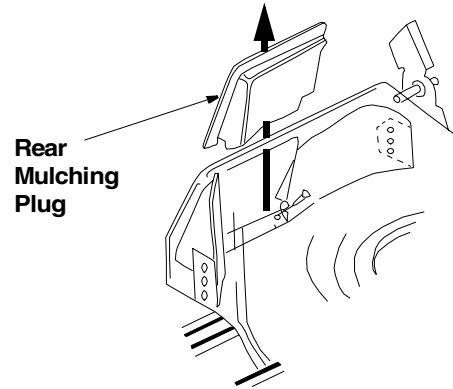

Figure 12
- If your mower is equipped with a mulching plug, and it is in place on the mower, lift the rear discharge door and remove the rear mulching plug from the mower. See Figure 12 .